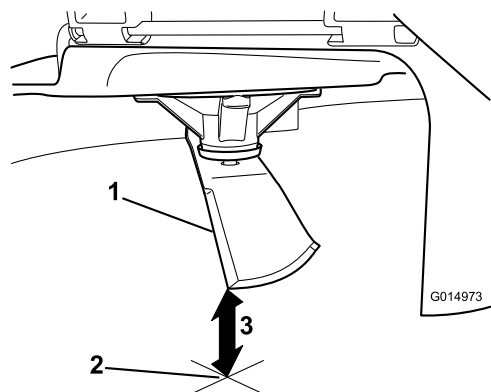

Figure 67
5. Measure from the tip of the blade to the flat surface (Figure 67).